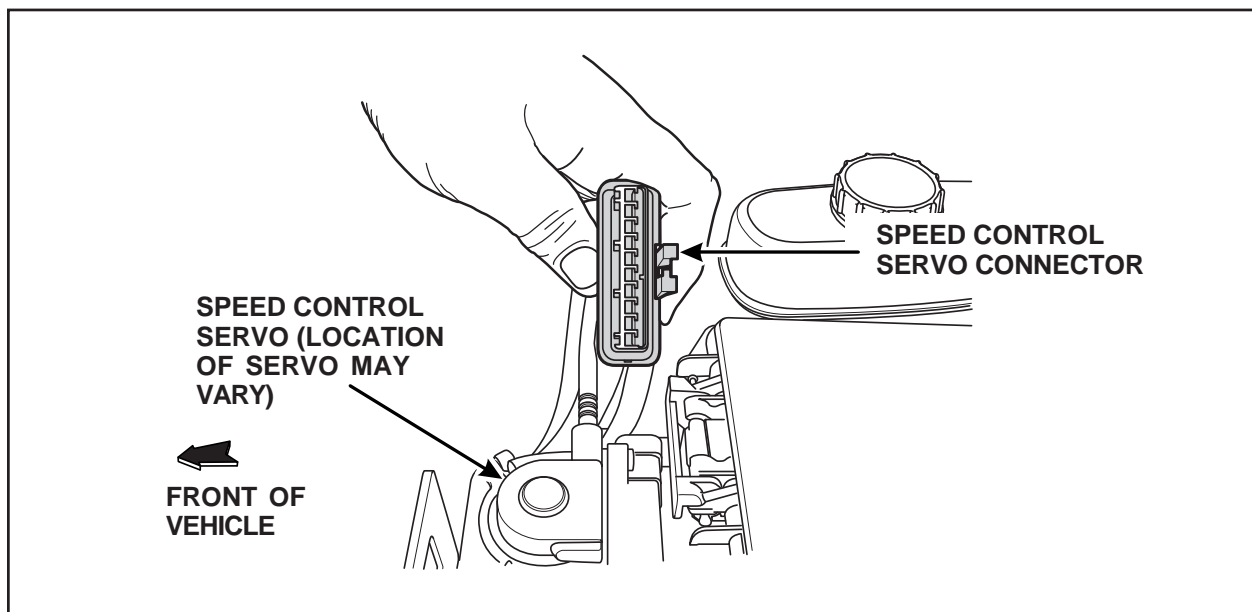

FIGURE 6
1. Disconnect the speed control servo and inspect the vehicle harness connector for heat damage (See Figure 6).